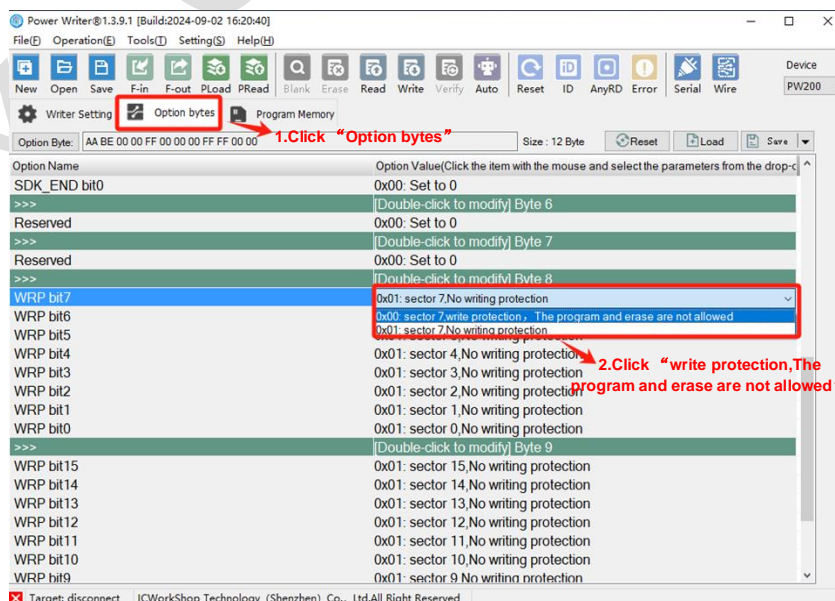
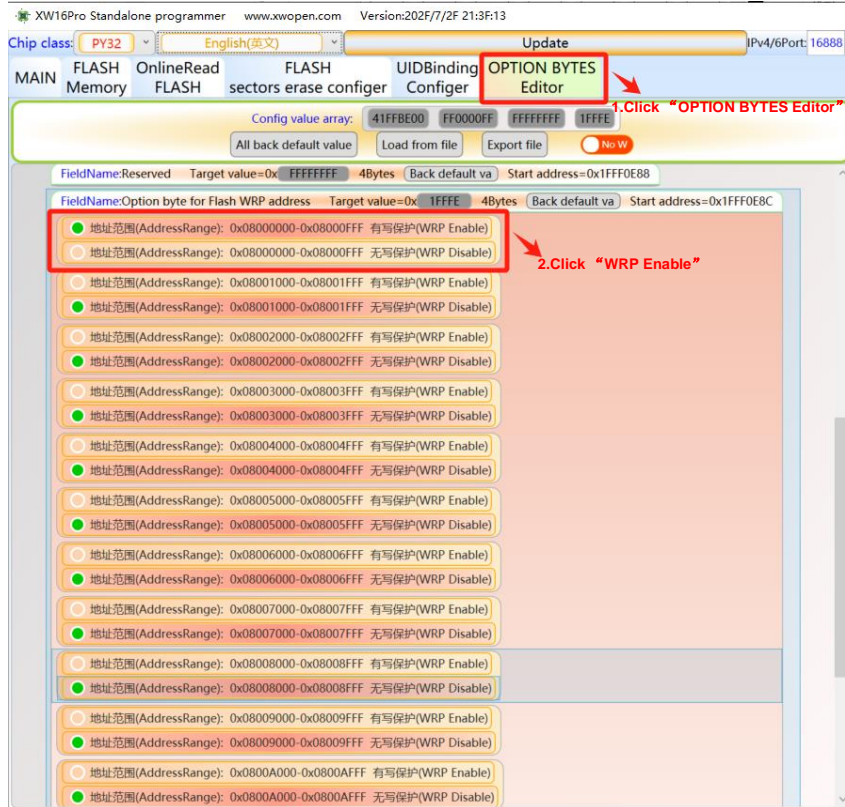

Figure 13-1 Power Write Operation Option Write Protection
Figure 13-2 XW operation Option write protection
- It is recommended that the customer program enables write protection, which is set in Option, as shown in Figure 13-1 and Figure 13-2.